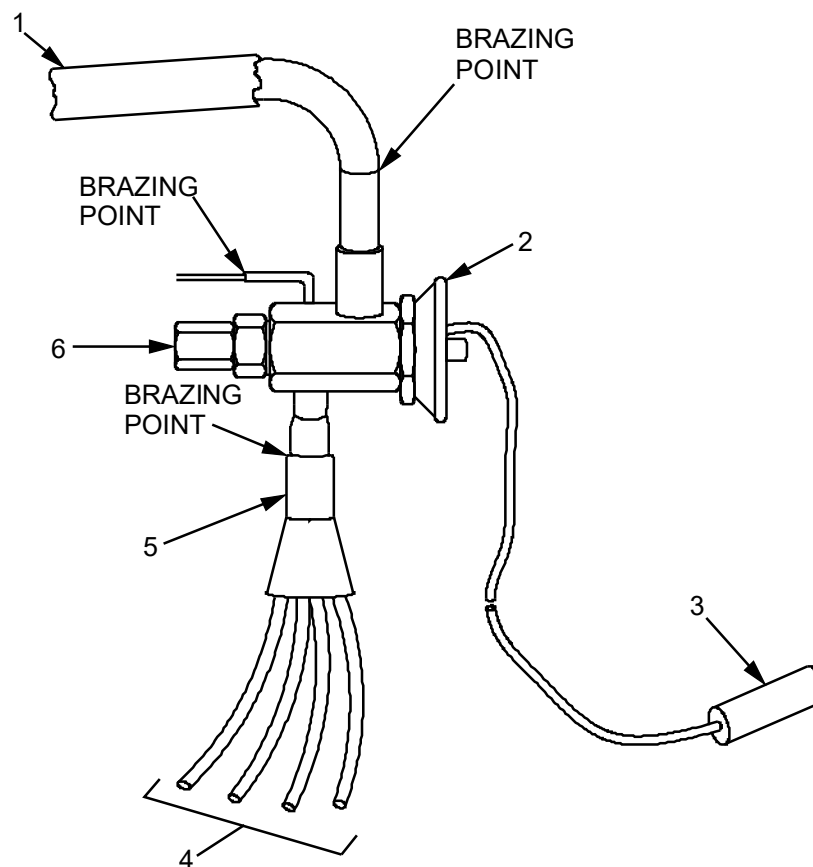

Figure 1. TEV Replace.
3. Remove insulation (Figure 1, Item 1) from thermal expansion valve (Figure 1, Item 2), sensing bulb (Figure 1, Item 3), and surrounding pipes to safely allow brazing.
5. Wrap wet rag around thermal expansion valve (Figure 1, Item 2), distribution tube (Figure 1, Item 5), and capillary tubes (Figure 1, Item 4), to prevent damage from overheating.
6. Debraze TEV (Figure 1, Item 2) at brazing points (see Figure 1). If necessary, refer to WP 0115 for brazing procedures.
7. Remove and retain any copper hose clamps securing sensing bulb (Figure 1, Item 3) to surrounding pipes.
8. Remove TEV (Figure 1, Item 2), sensing bulb (Figure 1, Item 3) and associated tubing.
1. Install TEV (Figure 1, Item 2), sensing bulb (Figure 1, Item 3) and associated tubing.
2. Wrap wet rag around thermal expansion valve (Figure 1, Item 2), distribution tube (Figure 1, Item 5), and capillary tube (Figure 1, Item 4), to prevent damage from overheating.
4. Run sensing bulb (Figure 1, Item 3) to suction line of evaporator coil clamping into place as required with clamps removed earlier.
5. Install insulation (Figure 1, Item 1) onto sensing bulb (Figure 1, Item 3) and surrounding pipes.
6. Remove wet rag from around TEV (Figure 1, Item 2).
4. Place thermocouple wire near expansion sensing bulb (Figure 1, Item 3) (near discharge of the evaporator coil) and secure into place with tape.
- a) Remove cap (Figure 1, Item 6) from end of TEV (Figure 1, Item 2).
10. Replace cap (Figure 1, Item 6) on TEV (Figure 1, Item 2) and remove thermocouple wire.